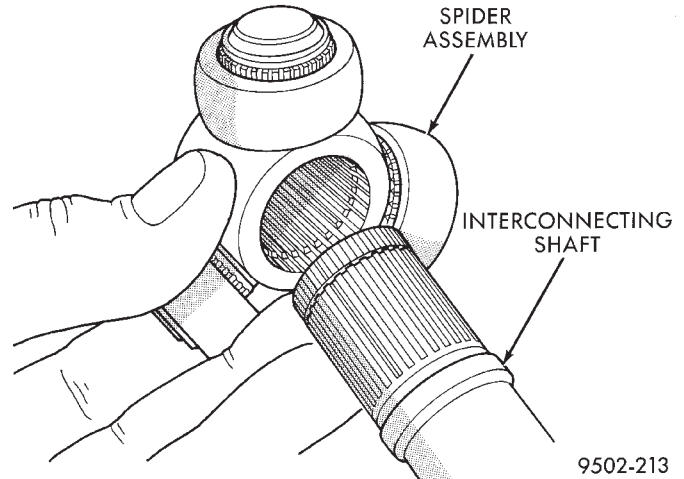
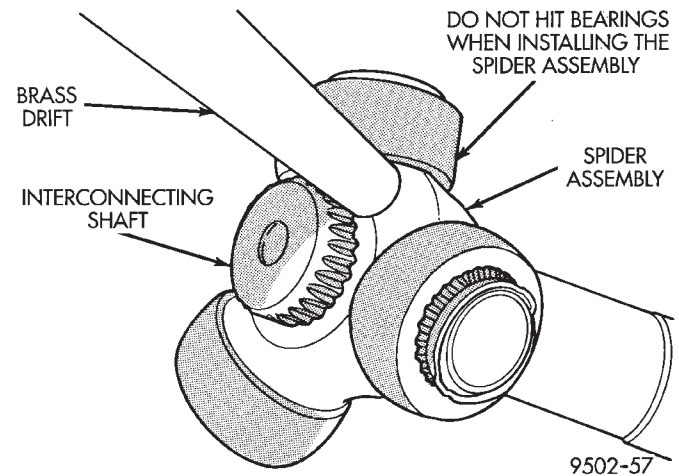

Fig. 30 Spider Assembly Installation on Interconnecting Shaft
Fig. 31 Installing Spider Assembly on Interconnecting Shaft
(2) Install spider assembly onto interconnecting shaft (Fig. 30). Spider assembly must be installed on interconnecting shaft far enough to fully install spider retaining snap ring. If spider assembly will not fully install on interconnecting shaft by hand, it can be installed by tapping the spider body with a brass drift (Fig. 31). **Do not hit the outer tripod bearings in an attempt to install spider assembly on interconnecting shaft.**